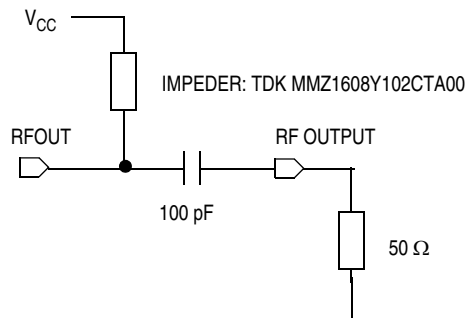

Figure 17-12. Output Power Measurement Configurations
- Output load is $50\ \Omega$ resistor (see Figure 17-12)
The RF output levels given in the 17.13.1 UHF Module Electrical Characteristics are measured with a 50-Ω load directly connected to the pin RFOUT as shown in figure Figure 17-12. This wideband coupling method gives results independent of the application.